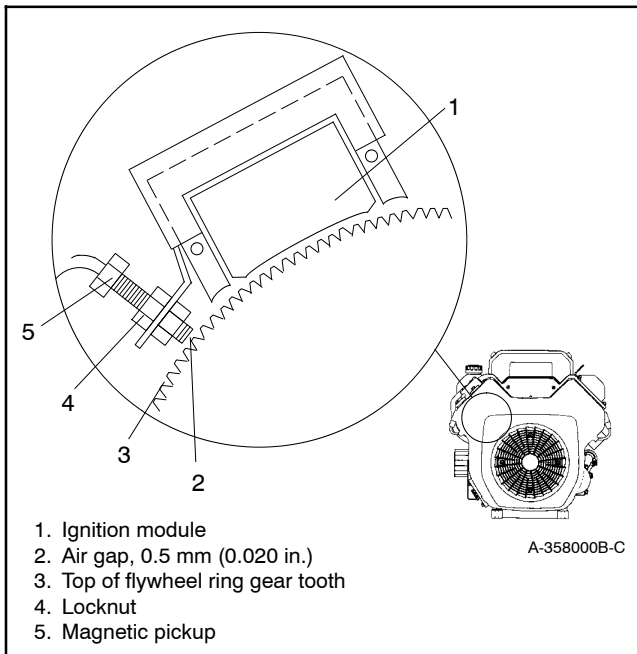

Figure 5-20 Magnetic Pickup Air Gap
If the voltmeter displays less than 3.0 volts AC, check the air gap as described in the following steps before replacing the sensor. Verify that the magnetic pickup air gap is 0.5 mm (0.020 in.). Measure the air gap at 3 or 4 places to get an accurate reading. See Figure 5-20.
- b. Adjust the air gap, if necessary, by loosening the locknut and turning the pickup. See Figure 5-20.